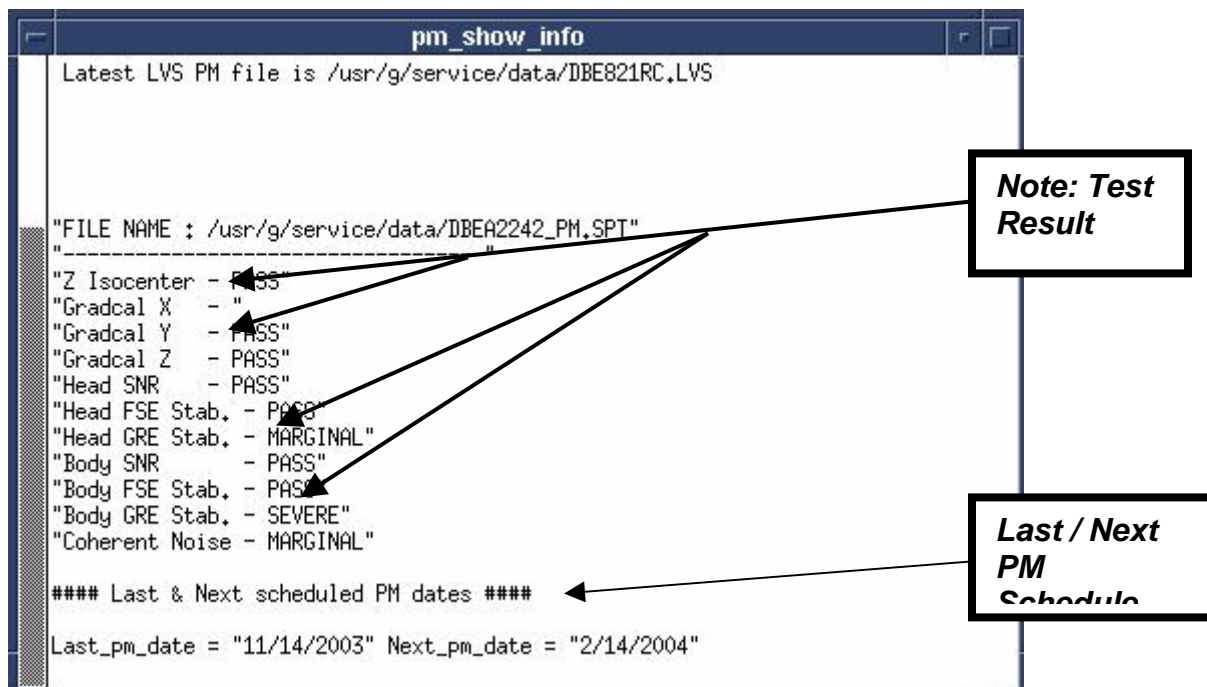

Figure19
2. The PM Check window will open. **Figure 19** The following information shall be displayed